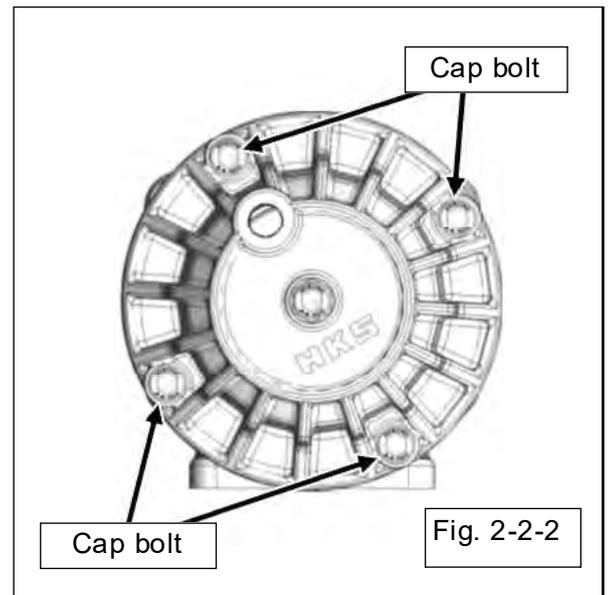

Fig. 2-2-2
- (2) Remove four cap bolts. (Fig. 2-2-2)
- (3) Slowly loosen the press holding the wastegate and remove the spring from the wastegate while being carefully not to let the spring fly out.
- (4) Replace the spring, and reassemble the wastegate by a reverse procedure.